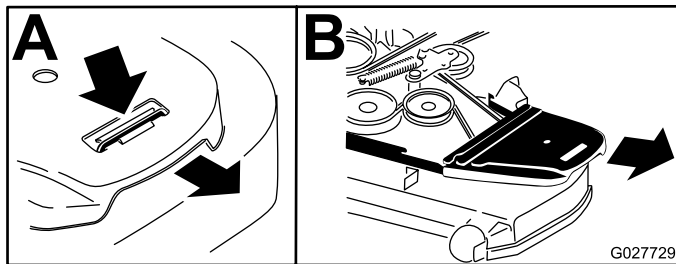

Figure 56
4. Remove the belt covers (Figure 56).